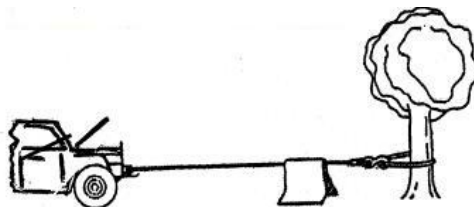

Figure 5
10. It is a good idea to lay a heavy winch blanket or jacket over the rope near the hook end when pulling heavy load (Figure 5). If a rope failure should occur, the cloth will act as a damper and help